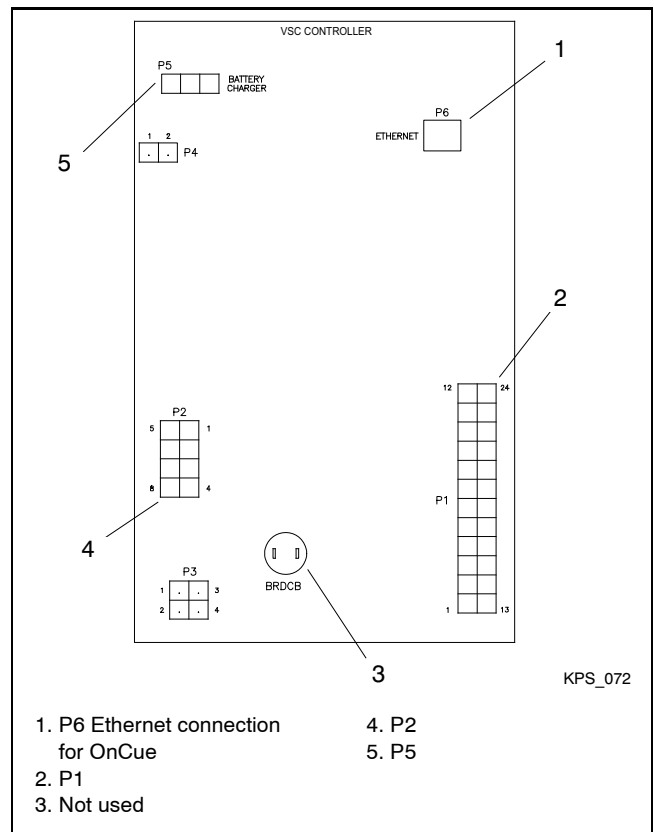

Figure 3-14 Controller Connections
6. Note the connections on the back of the controller, and then disconnect all harnesses and leads from the controller. See Figure 3-14 or the wiring diagram.